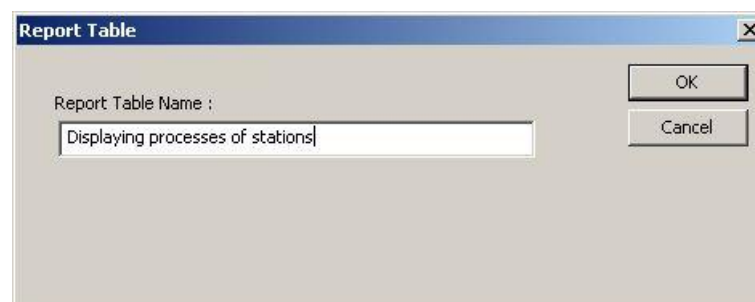

Figure 125: Entering the Name of the Report
- 4) To create a new report, click **New** button. After clicking the New button, the next input window opens, *Please refer to the Figure 125.*